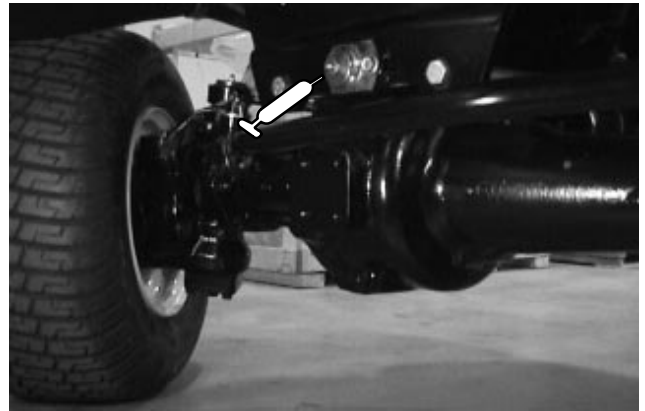
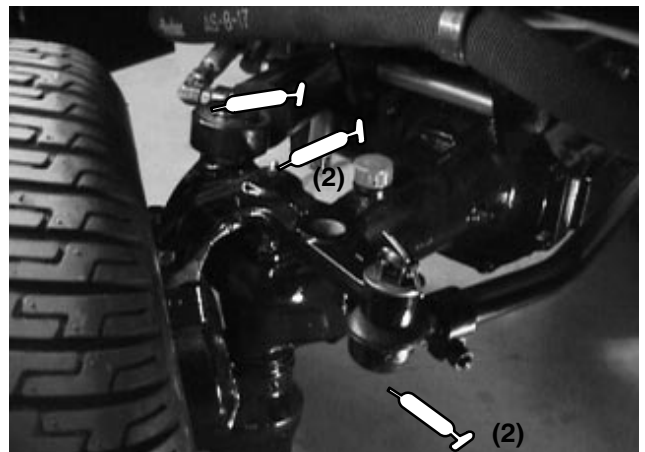

Figure 31
Figure 32
4 wheel drive machines only – center pivot (1) (Fig. 31); tie rod assembly (2), axle knuckles (2) cylinder ends (2) (Fig. 32).